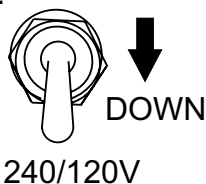

Figure 24. Full Power Switch 240/120V Position (Down)
13. Place the full power switch (Figure 24) in the 240/120V position (down).